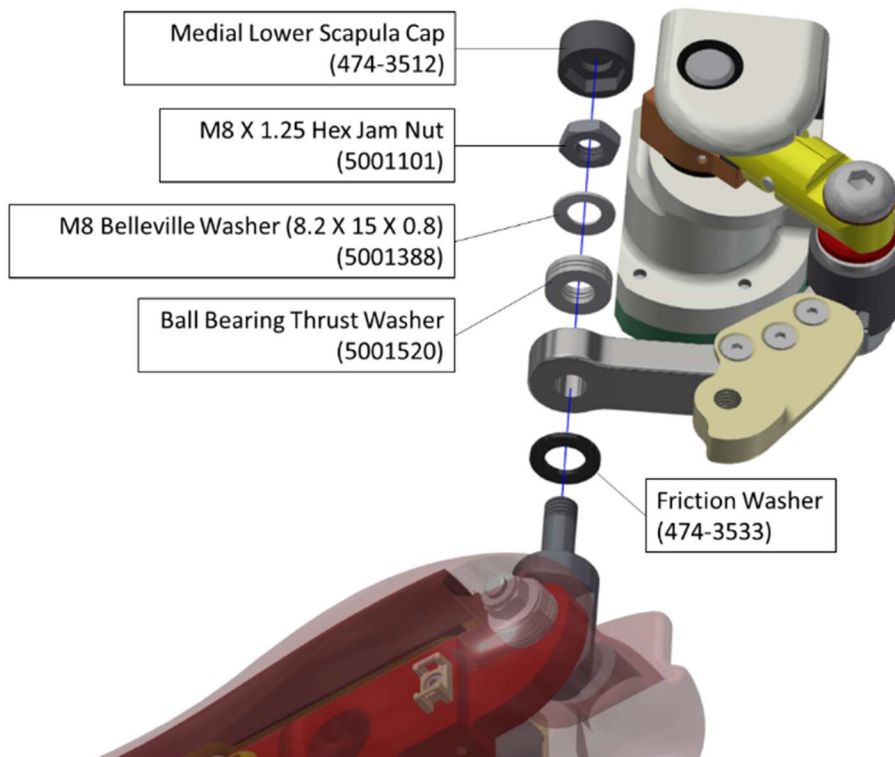
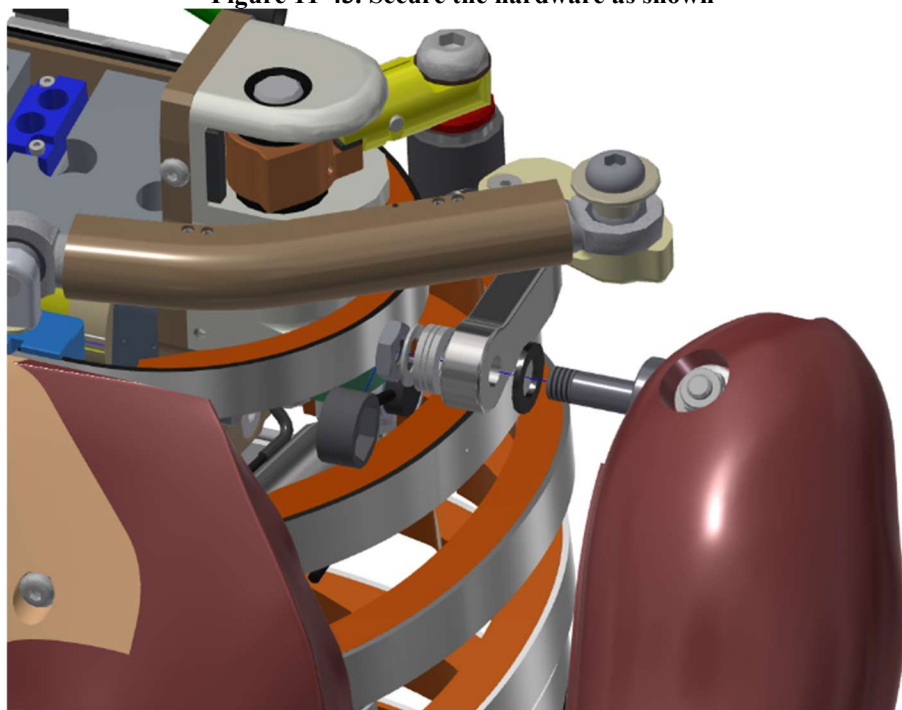

Figure 11-43. Secure the hardware as shown
Figure 11-44. Attach the Shoulder Clevis (483-3504) to the Lower Scapula (474-3505).
11.3.19 To attach the arm to the shoulder, insert the Shoulder Clevis (483-3504) into the Lower Scapula (474-3505) by tightening an M8 X 1.25 Hex Lock Nut on the medial side of the arm (Figure 11-43 and Figure 11-44).